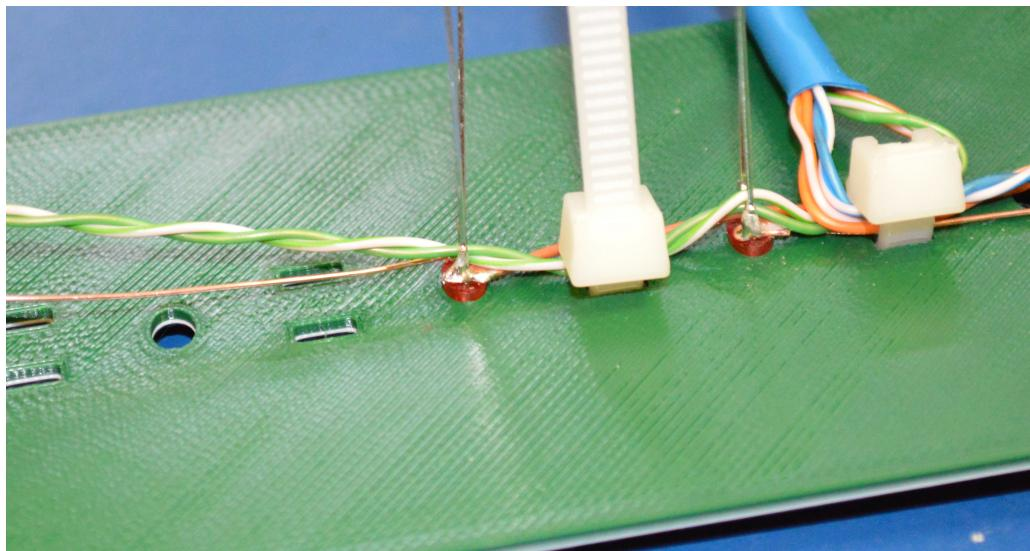

Figure 2.11: Solder the Second LED and Add a Cable Tie
- Solder the next LED and add a cable tie between them. See Figure 2.11.